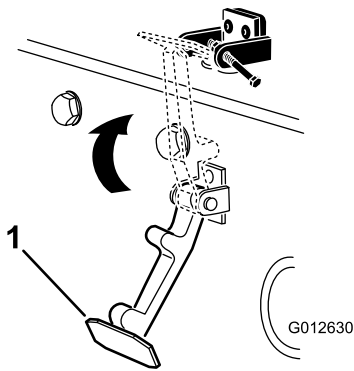

Figure 8
7. Hook the latch onto the hood-latch bracket (Figure 8).